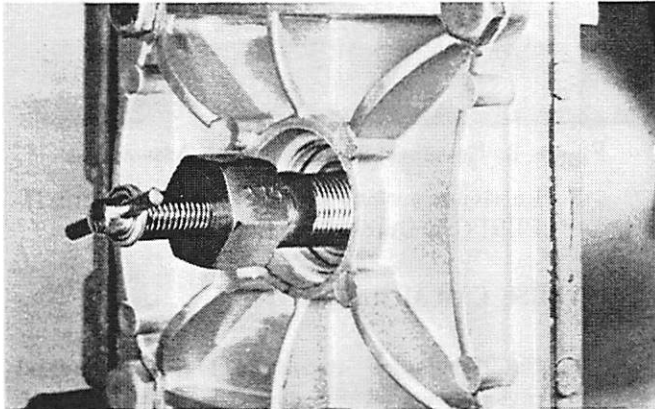

Figure 3. Timing Gauge in Spark Plug Hole
3. Thread Timing Gauge (91-26916A1) into No. 3 spark plug hole. (Figure 3)